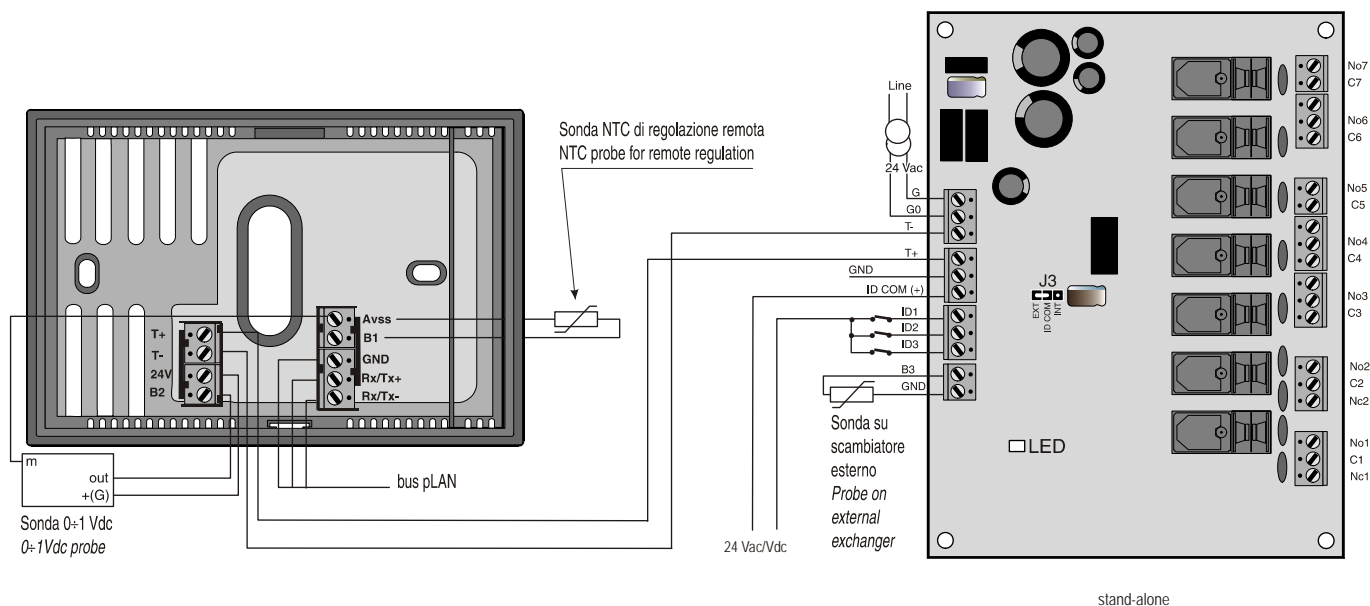

Figure 3.4.1
4. Connect the cables to the terminals on the rear shell of the terminal, as indicated in Fig. 3.2.1 or Fig. 3.4.1, according to the application you are facing to (stand alone or multi-zone).